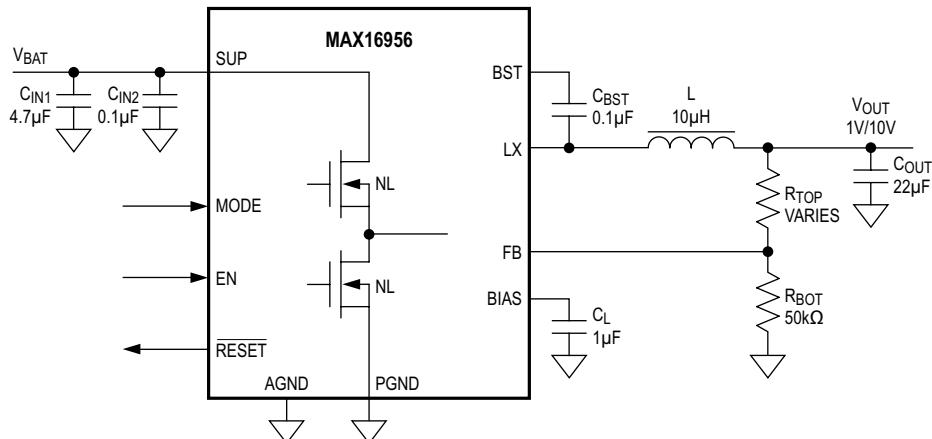

Figure 3. MAX16956AUBC/V+, Variable Output Voltage, 10-Pin μMAX
- 1) The input capacitor (4.7 μ F, see Figures 3 and 4) should be placed immediately next to the SUP pin of the device. Since the device operates at 2.1MHz switching frequency, this placement is critical for effective decoupling of high-frequency noise from the SUP pin.